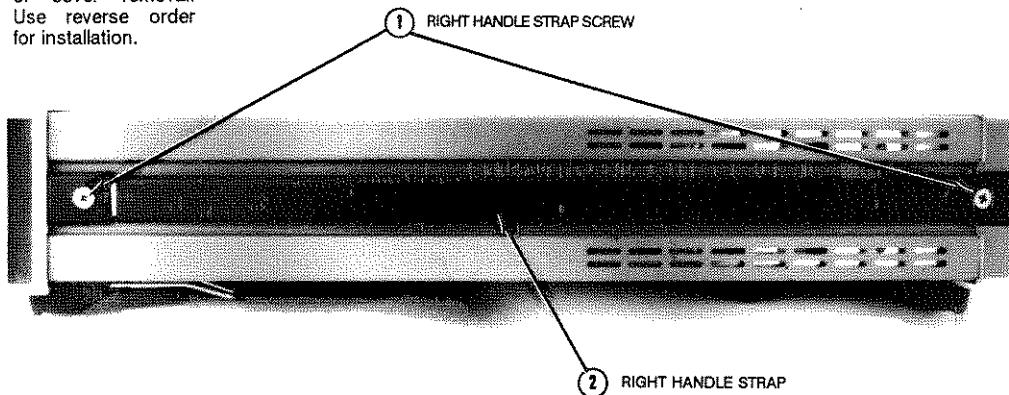

Figure 3-1. Right Side Handle Removal/Installation
in Figures 3-1 to
3. Refer to Figure 3-1. Turn the instrument so its right side (as seen from the front) faces you.
18. Refer to Figure 3-1. Turn the instrument so its right side faces you.